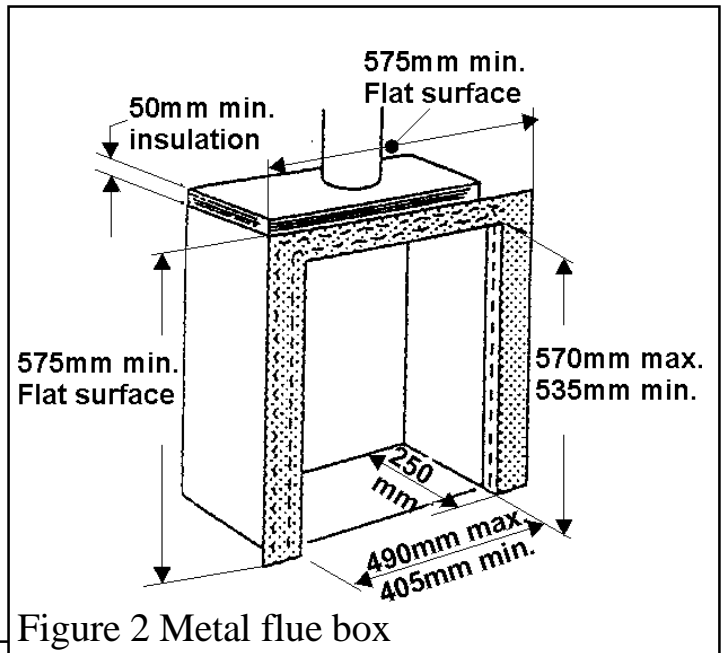

Figure 2 Metal flue box
2.10.2 A twin wall metal flue system conforming to BS715, the flue diameter being a minimum of 125mm (See figure 2) with a minimum internal depth of 250mm. Incombustible mineral wool insulation of not less than 50mm thickness must be applied to